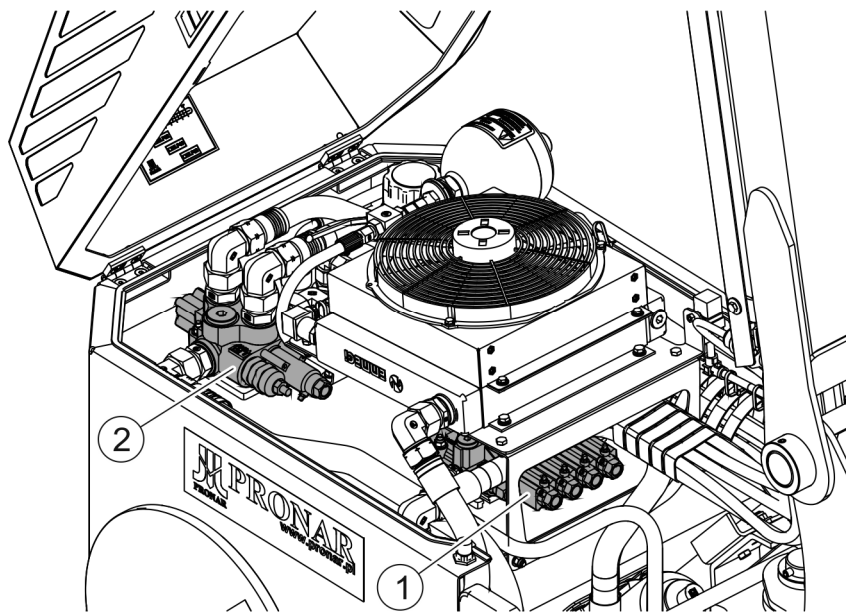
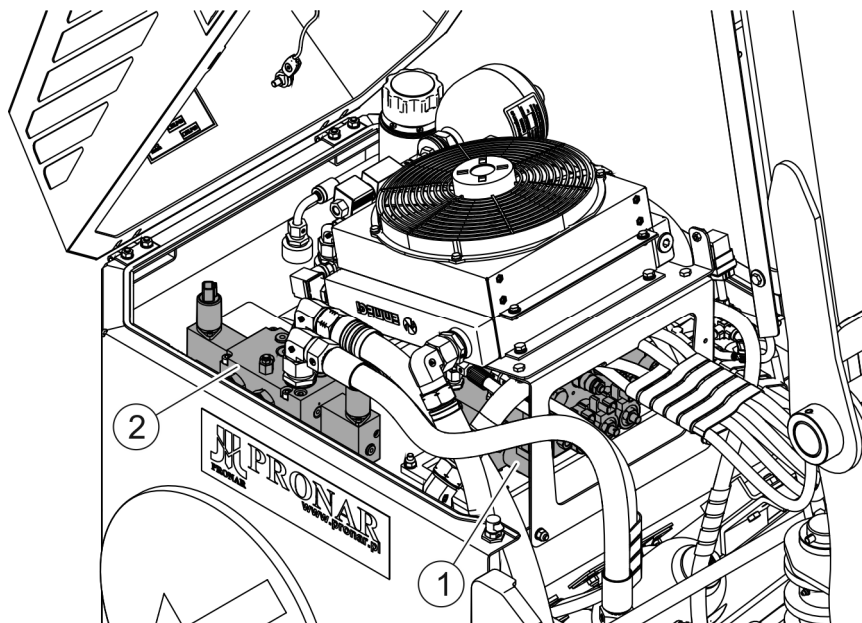

FIGURE 5.3 Hydraulic selective control valves (WWT600).
FIGURE 5.4 Electrohydraulic selective control valves (WWT604D).
(1) - electrohydraulic selective control valve of cylinders of support system arms; (2) - electrohydraulic selective control valve of the working head's hydraulic motor.
Hydraulic selective control valve (1) (FIGURE 5.3) or electrohydraulic selective control valve (1) (FIGURE 5.4) is used for controlling four hydraulic cylinders of the support system.
Single-section hydraulic selective control valve (2) (FIGURE 5.3) or electrohydraulic selective control valve (2) (FIGURE 5.4) is used for starting the working head's hydraulic motor. The selective control valves are controlled by means of mechanical control system (WWT600) or electrically by means of control panel with joystick (WWT604D) in the tractor cab. Check the condition of seals of selective control valves daily and pump grease into all grease nipples located on individual sections of hydraulic selective control valves.
Additionally, lubricate the drive shaft (option) in line with the shaft's Operator Manual provided by the drive shaft manufacturer and pump grease into all grease nipples located on individual sections of hydraulic selective control valves (FIGURE 5.3).